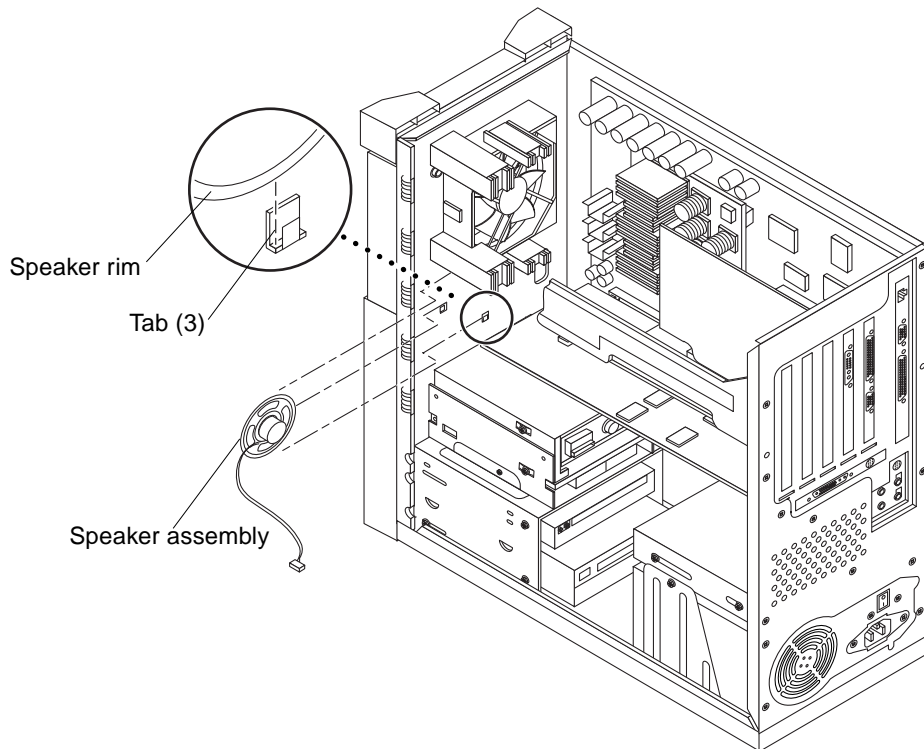

FIGURE 6-6 Removing and Replacing the Speaker Assembly
2. **Remove the speaker assembly as follows (FIGURE 6-6):**
1. Replace the speaker assembly as follows (FIGURE 6-6):